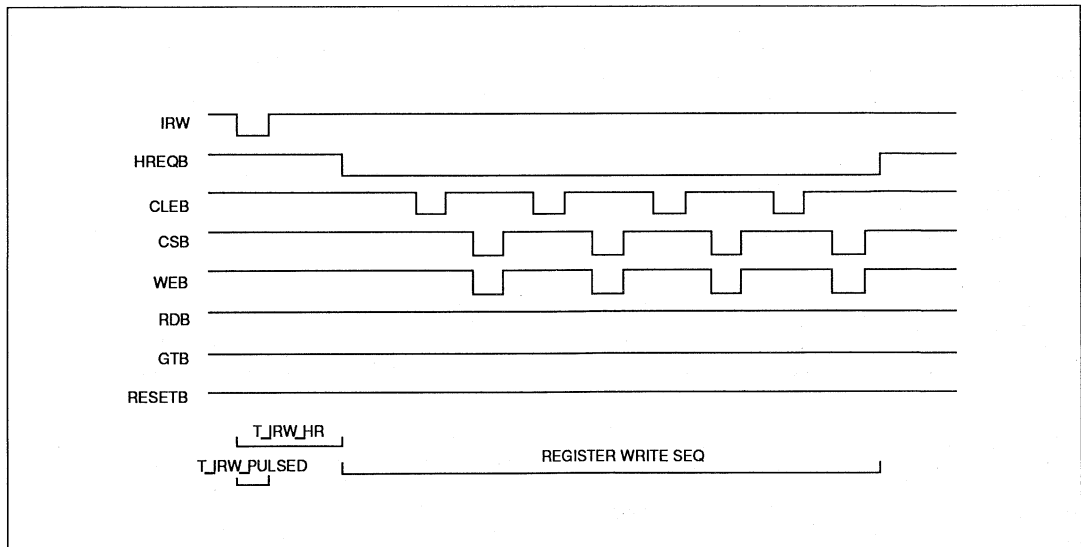

Figure 6.3: Register Write Time (IRW Pulsed Low)
- 2) On Request (IRWB pulsed low), (Figure 6.3).
The subsystem initiates the IRW sequence from the MA805 internal registers by pulsing IRWB low 0.5µsec minimum, provided that the terminal is not servicing a command (see Figure 6.3). If the terminal is busy then hold IRWB=0 until sequence is output.